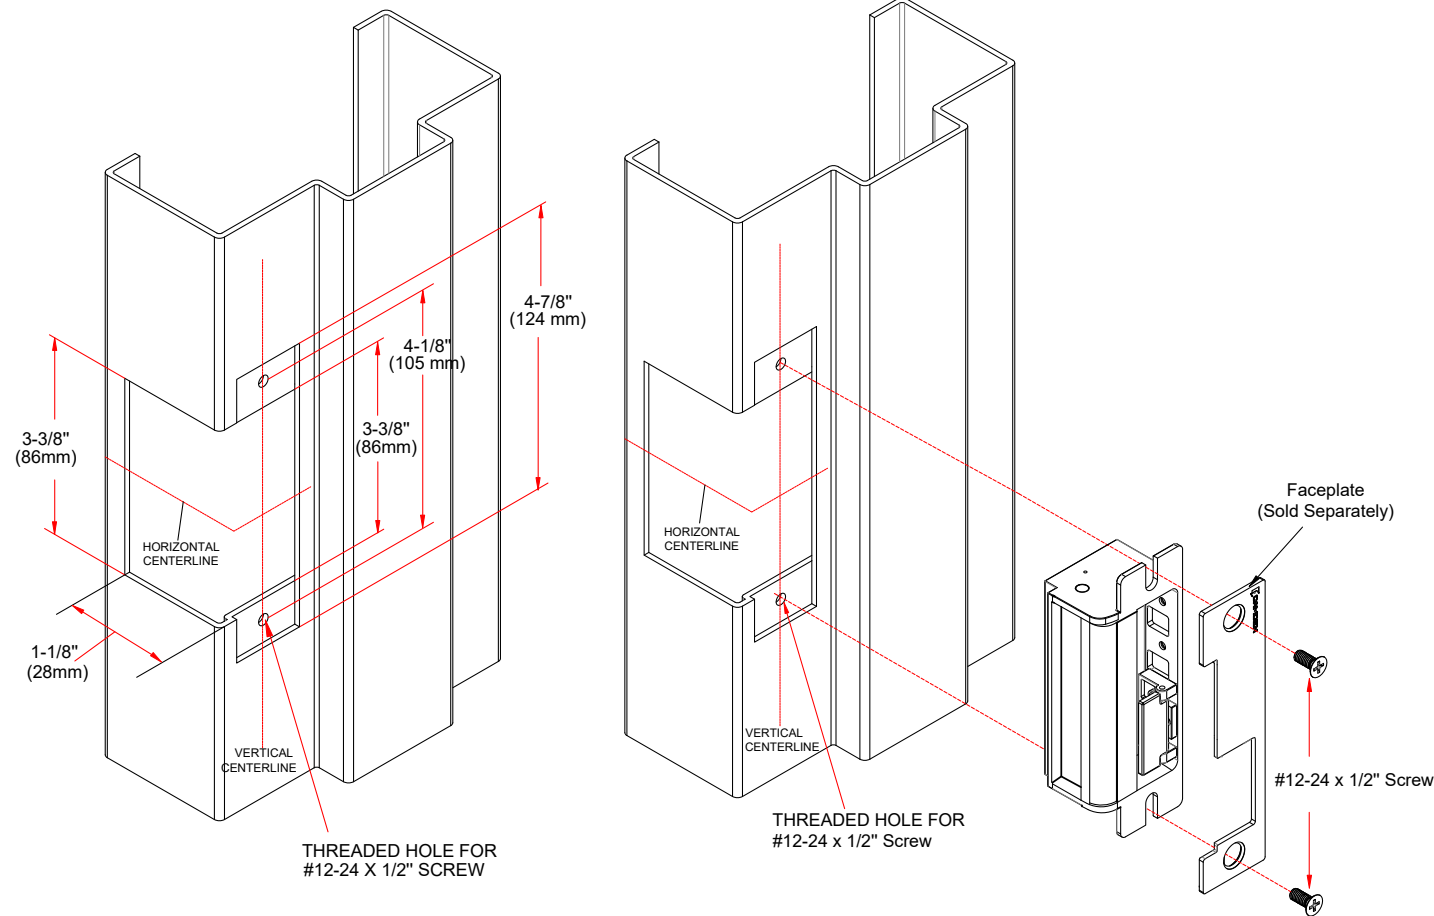

Figure 4.2 Cutout Dimensions
1. Check that the door jamb has a cutout that fits the strike assembly. If not, refer to figure 4.2 for guidance.